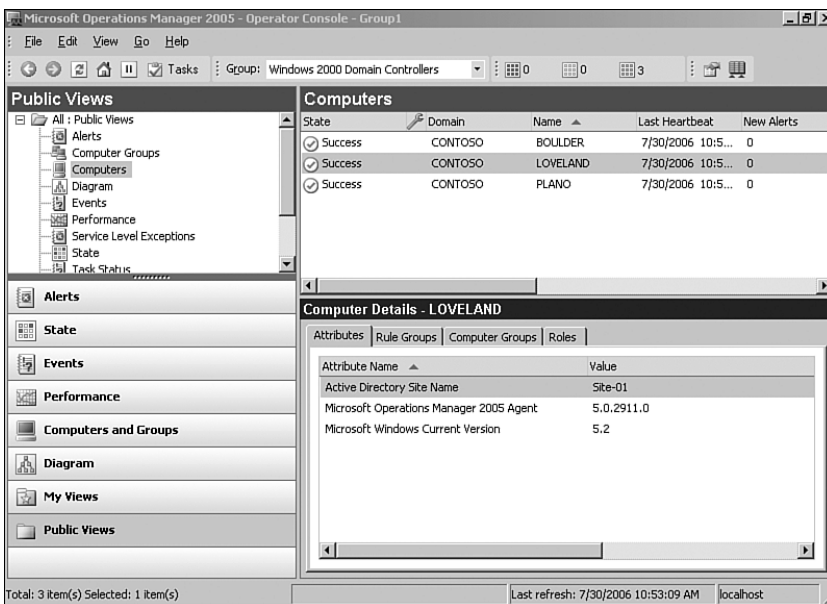

FIGURE 20.11 Active Directory Site Name within the Attributes tab of the Computer Details.
2. The Computer Details pane shows all the attributes that have been identified on the selected computer. Figure 20.11 shows the Attributes tab. The Active Directory Site Name attribute contains the value Site-01; this corresponds to the Active Directory site the server is located in.